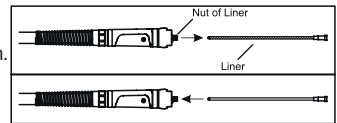

Figure 10: Removing the Liner and Installing the New Liner
- Unscrew the liner's nut which is on torch connector side and remove the liner existing in torch. After inserting the new liner into the torch, screw its nut tightly (Figure 10).